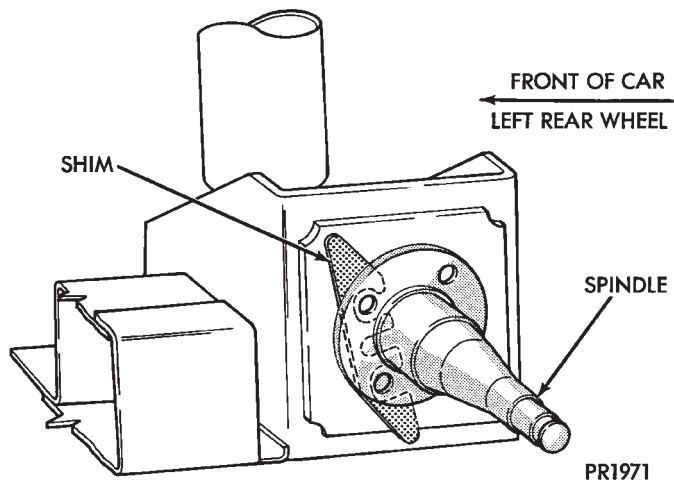

Fig. 4 Shim Installation for Toe-Out (typical)
(10) Install shims as shown in Figs. 4, 5, 6 and 7 for desired wheel change. No more than two shims on each spindle should be used to bring alignment within acceptable range.